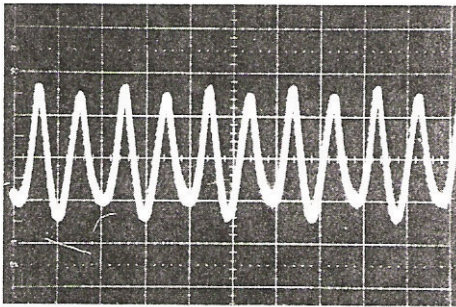

Fig. 3 Improper setting of R101 or R102
- h. Reset the INPUT signal to 1 kHz, adjust R105 for a -10 dB ± 0.5 dB reading on the AC voltmeter, and measure distortion. It should be less than 0.3% (See Figs. 3 and 4).